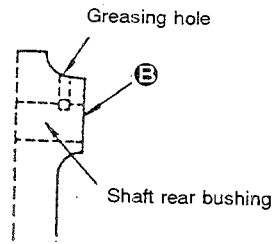

Fig. 5-56-2
In addition, be sure that the end face of the rear bushing of the main shaft is flush with the end face of the arm at face ⑤. (Fig. 5-56-2)